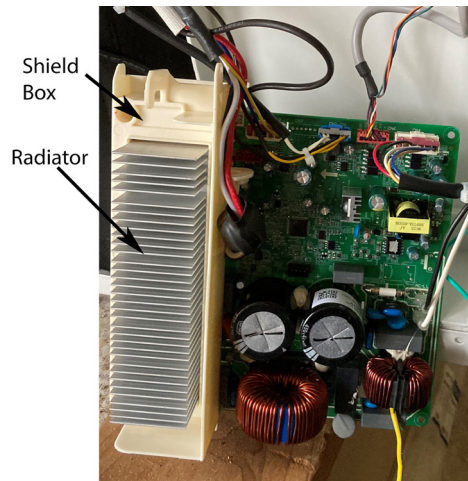

Figure 606
7. Remove Electrical Box and rubber Gasket. See Figure 606.